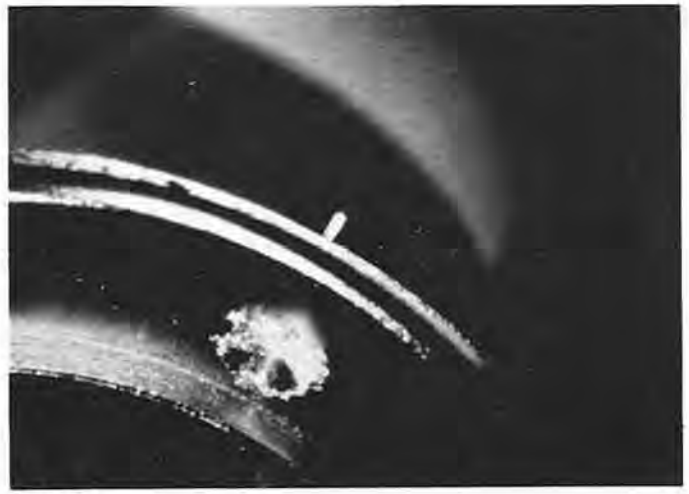

Figure 14
5. A very large hole can be accommodated by epoxying the button in the hole with a thick paste, strong bonding epoxy. After the epoxy has firmly cured, electrical conductivity to the case can be achieved by painting a stripe of electrically conductive paint or epoxy from the edge of the barrel to the case wall. See Figure 14.